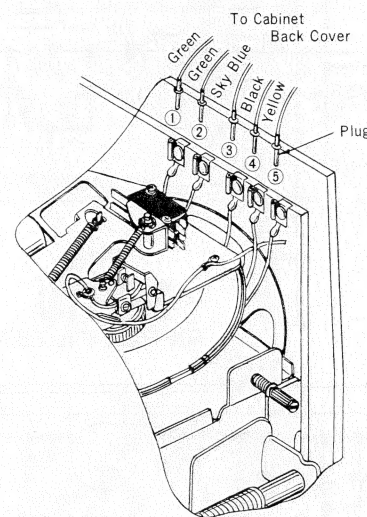

Fig. 6
4. Remove plugs (1)~(5) from the cabinet back cover, as shown in fig. 6.